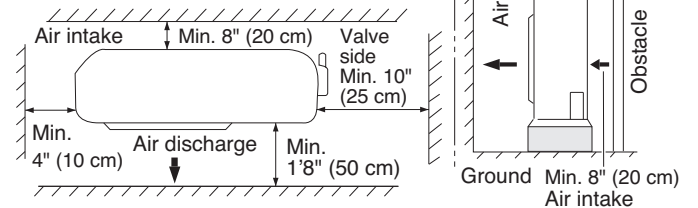

Fig. 5b
- install in a location where at least two sides are unobstructed, so that the flow of air at the intake port or exhaust port is not blocked, and so that sufficient space is ensured for maintenance to be carried out without trouble. In general the top also must be unobstructed. (Fig. 5b)